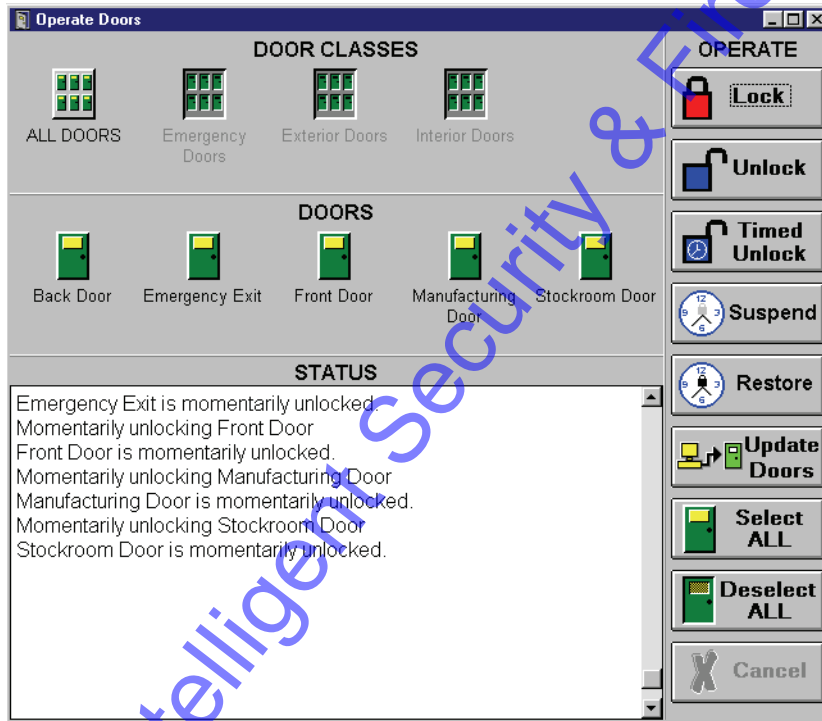

Figure 6-8: Timed Unlocking All Doors
2. Click on the  button, and then click on the  button. The resulting window should look similar to Figure 6-8.